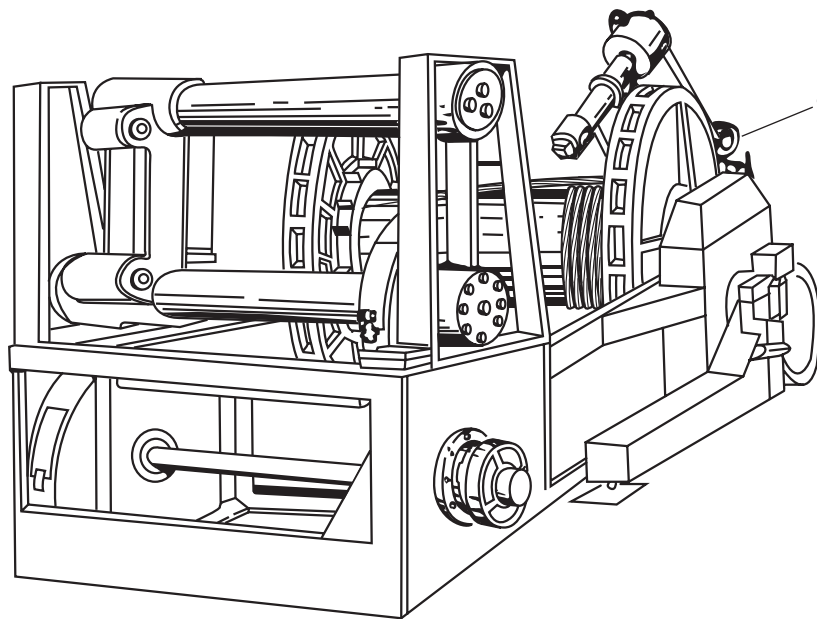

Figure 2. Towing Machine
5. Loosen the clutch brake handwheel (figure 2, item 1) slowly until the drum turns slightly and all of the load is transferred to the dog.
6. Tighten the clutch brake handwheel (figure 2, item 1).
3. One crewmember releases the clutch brake handwheel (figure 2, item 1) and immediately leaves the area.